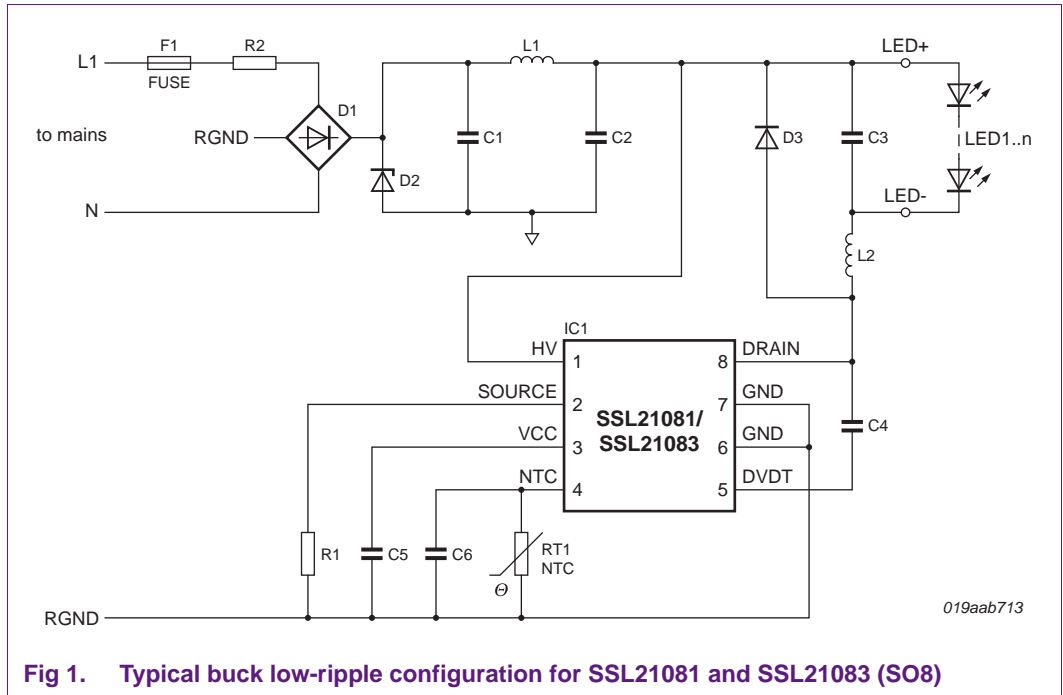

Fig 1. Typical buck low-ripple configuration for SSL21081 and SSL21083 (SO8)
A typical buck application in low-ripple configuration for the SSL21081 and SSL21083 platforms, driving a single LED chain, is shown in Figure 1.
**Remark:** In Figure 1 the LED string is connected above L2. This is to prevent the LEDs having a voltage variation equal to the drain voltage. As the LED assembly is relatively large with extended wires and a heatsink, it has substantial capacitive coupling compared to its surroundings. This capacitive coupling would have a detrimental effect on efficiency and EMC.
The starting parameter, for designing a circuit as shown in Figure 1, is the required LED current ( $I_{LED}$ ) and the LED voltage ( $V_{LED}$ ). Assuming the converter works exactly in boundary conduction mode, the relationship between output current and inductor peak current ( $I_{peak}$ ) is:
The same inductor is used (L2 in Figure 1) to charge and discharge energy, so there is a direct dependency between  $\delta 1$  and  $\delta 2$ , the LED forward voltage and input voltage:
The crest factor C is the ratio between peak current and average current. In Figure 1, the crest factor is normally around a factor 4.
The SSL21081, the SSL21083, and the SSL2109 operate in boundary conduction mode and when the MOSFET is switched on, the voltage level on the SOURCE pin increases because the inductor current also flows through the external resistor R1 (see Figure 1). In this schematic, resistor R1 limits the peak current ( $I_{peak}$ ). When the voltage level over this resistor reaches a threshold, the cycle stops and the switch stops conducting. This threshold can be used to control peak current. Using peak current control, the LED current is half the peak current in BCM mode. In addition, the tolerance on this detection is proportional with the tolerance on LED current. The threshold level is  $V_{th(ocp)}$  and Equation 29 can be used: